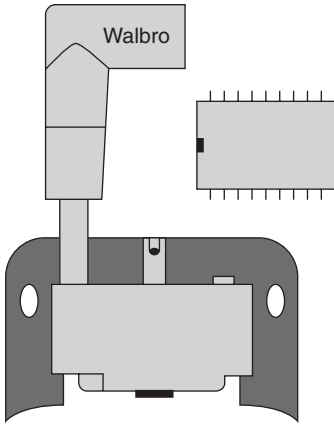

FIG. 3-13. Walbro digital CDI.
and advances timing in a patterned sequence that can be modified by the engine maker (Fig. 3-13). The integrated circuit (IC) also acts as governor, retarding timing as the preset rpm limit is approached. Digital control costs almost nothing at the OEM level: one company offers IC timing controllers for 39 cents each in batches of 10,000.